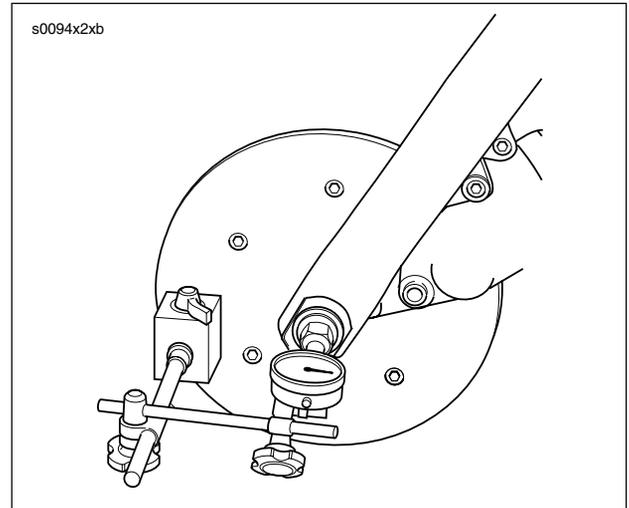

Figure 2-75. Measuring Lateral End Play (Front Wheel)
2. See Figure 2-75. Mount a magnetic base dial indicator to brake disc with dial's contact point on end of axle.